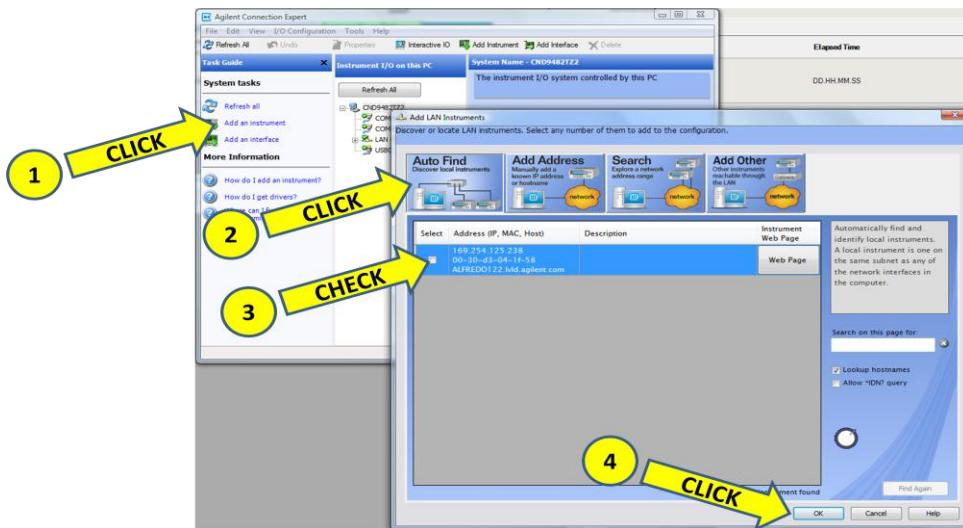

Figure D2– Add instrument to ACE.
- 5) Once ACE opens (figure D2) highlight the **LAN (TCP/PO**) icon (just below the **Refresh all** button).
- 6) Select **Add Instrument** icon on the toolbar (figure D2 – 1)